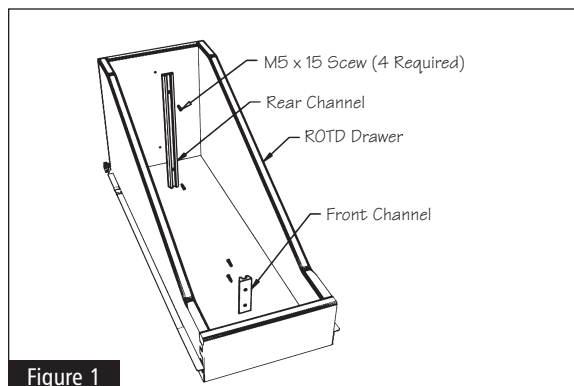
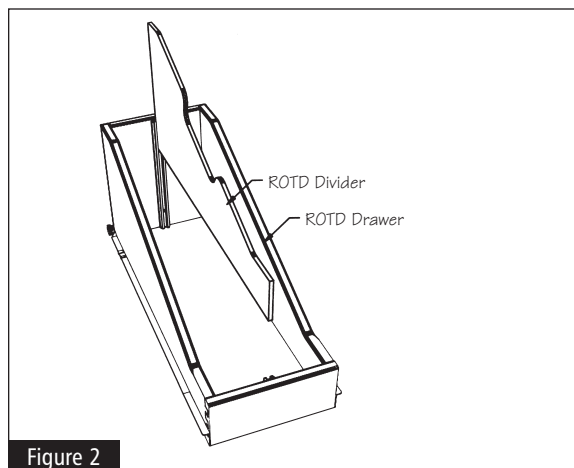

Figure 1
Figure 2
- 2** Align the Front and Rear Channels over the pre-drilled holes located in the front and back of the Roll Out Tray Divider Drawer as shown in Figure 1.
- 3** Secure Channels with (2) M5 x 15 Screws into each Channel. Be sure not to over tighten the screws to prevent the screws from stripping.
- 4** Slide the ROTD Divider into place as shown in Figure 2.